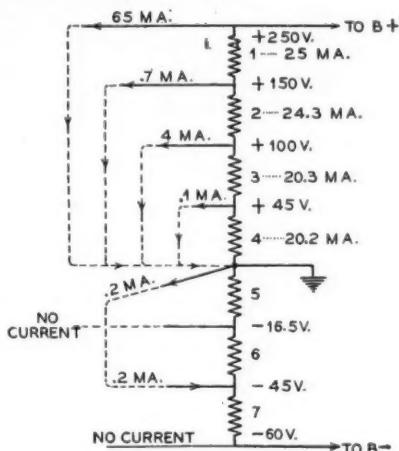

FIG. 4
Step 1 requires us to find the current at all taps and in order to visualize for the reader how currents leave the divider and return to it later, the same divider has been shown again in Fig. 4 with the external paths shown in dotted lines. The current in each section is also given.